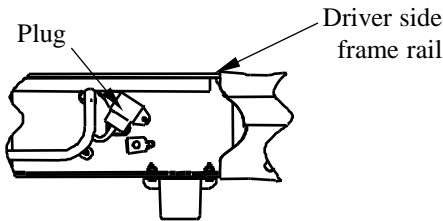
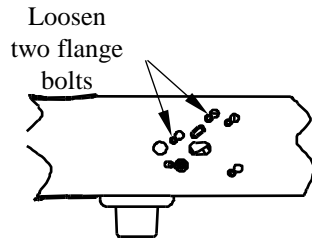

Figure 2a
Figure 2b
2. **On 2007 “New Body Style” Pickups with OE Trailer Brake Controller:** Relocate the electrical plug that is located on the inside of the driver’s side frame rail over the rear wheel (Figure 2a). The plug may be removed from the frame by loosening the two bolts on the outside of the frame and pushing the bolt heads through the key hole slots, as shown in Figure 2b. Attach the plug to the angle bracket supplied with the mounting kit. The bracket will be attached to the inside of the frame with a 3/4” bolt at a later installation step.